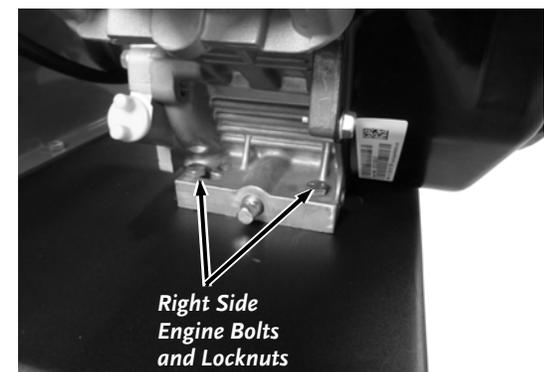

Figure 22
3. Loosen the two right side Engine Mount Bolts and Locknuts using two 1/2" Wrenches (Figure 22).